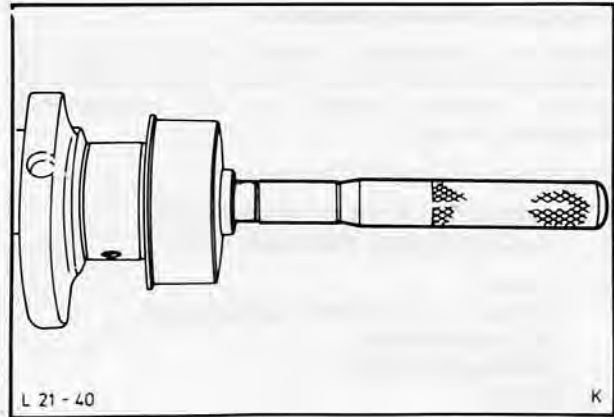

Fig. 97. Fitting crankshaft pilot bearing using Special Tool 21-044
30. Press new pilot bearing into crankshaft, using Special Tool 21-044, Fig. 97.